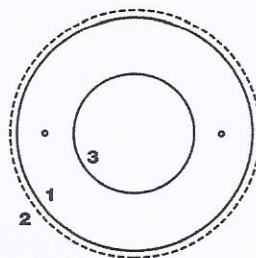

Fig. 2
7. Cut out center circle from plywood, Fig.2.Round-off inside edge and sand.